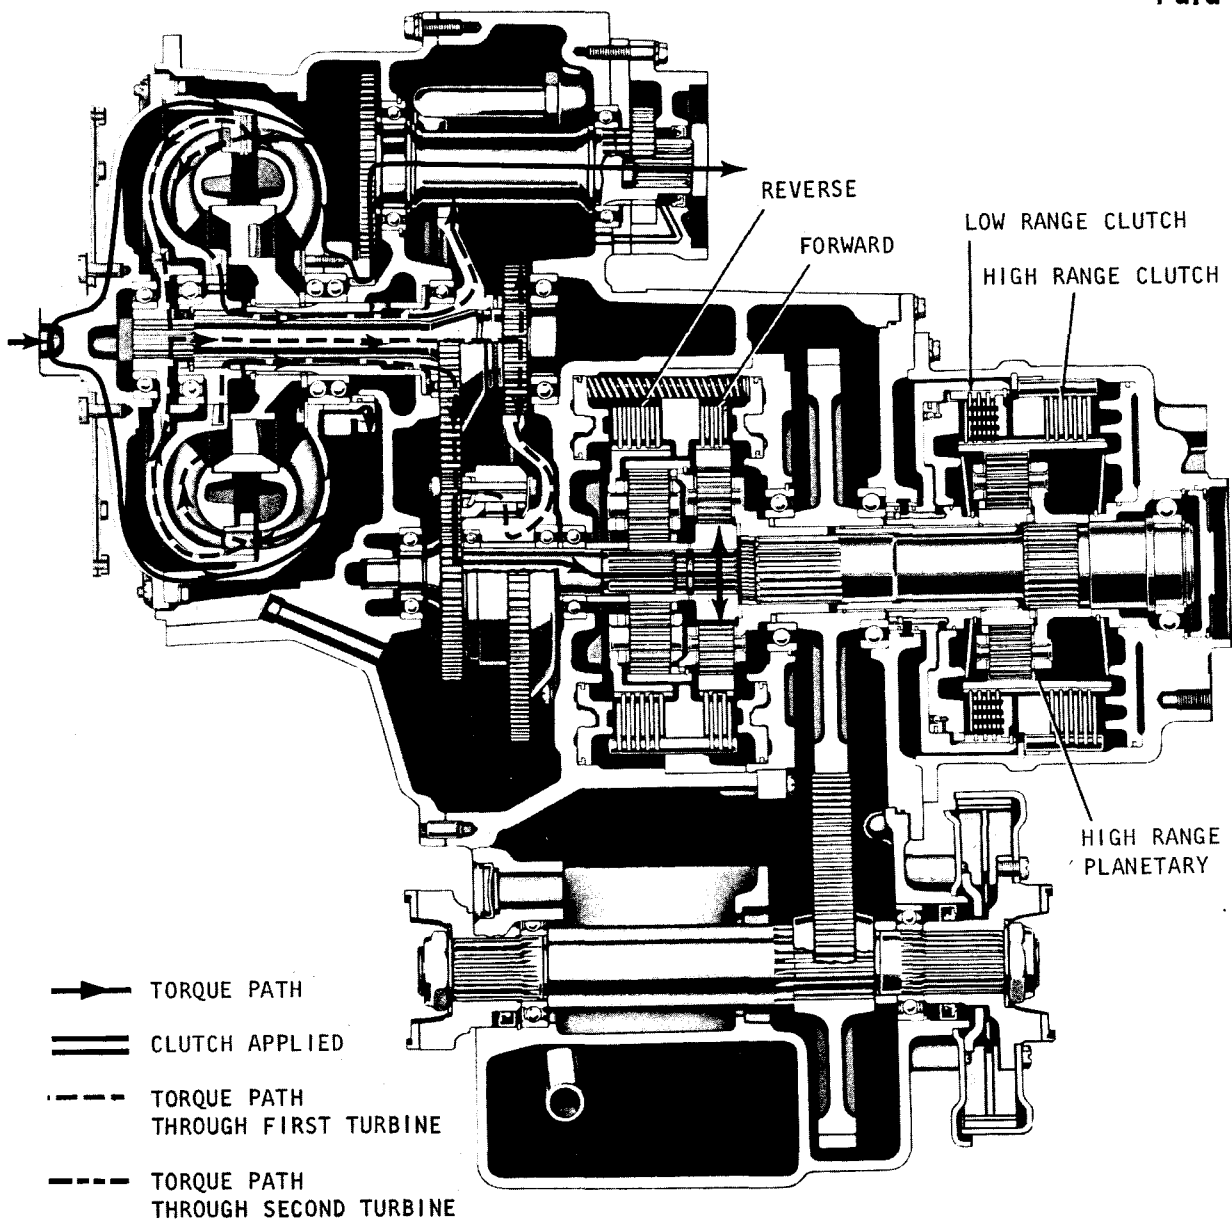

Fig. 2-10. TRT 2421-1 neutral and PTO torque paths
b. Schematics and Explanations. Torque paths through the various models of transmissions are covered in paragraphs 2-22 through 2-25, below. All individual conditions for all transmissions are not illustrated by schematics. However, the colored torque path schematics (fig. 2-10 through 2-18) and explanations for specific models can be applied to other models. This will be done by referring, in some instances, to text and illustrations for one model when explaining another model.
Accordingly, the explanation of this part of the power flow is made applicable to any transmission model and to any of the torque path schematic diagrams (fig. 2-10 through 2-18).
### a. Neutral (fig. 2-10)
(2) The power takeoff drive torque path is illustrated in figure 2-10 and is identical in all TRT transmissions. The rotation of either power takeoff spline (refer to fig. 1-2) is opposite engine rotation (or clockwise — viewed from rear). Both power takeoff splines rotate at either 0.91 or 1.00 times engine speed, depending upon the drive gear option.
(1) Refer to foldout 2 while studying the explanation of power flow in neutral. Refer to paragraph 2-21d, above, for explanation of power flow from the engine to the transmission gearing.
(2) In neutral, no power is transmitted beyond the forward and reverse planetary sun gear. Refer to paragraph 2-22a(2) and figure 2-10 for explanation of the power takeoff power flow.
(1) Refer to foldout 3 while studying the explanation of operation in neutral. Refer to paragraph 2-21d, above, for explanation of power flow from the engine to the transmission gearing.
(2) In neutral, power is not transmitted beyond the reverse and forward sun gear. The low-range clutch is engaged but no torque is transmitted because neither the forward nor reverse clutch is engaged. The reverse carrier and forward ring gear rotate freely.
(3) Refer to paragraph 2-22a(2) and figure 2-10 for explanation of the power take-off torque path.